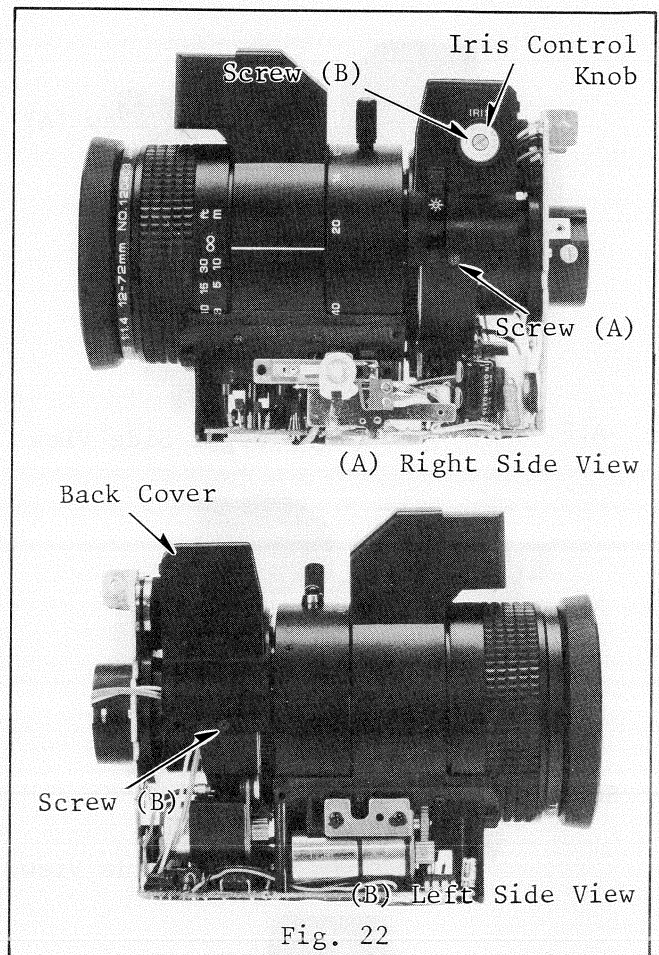

Fig. 22
6-3. Unscrew 2 screws (A) (see Fig. 22-A/B).
6-4. Unscrew a screw (B) and remove the iris control knob (see Fig. 22-A).